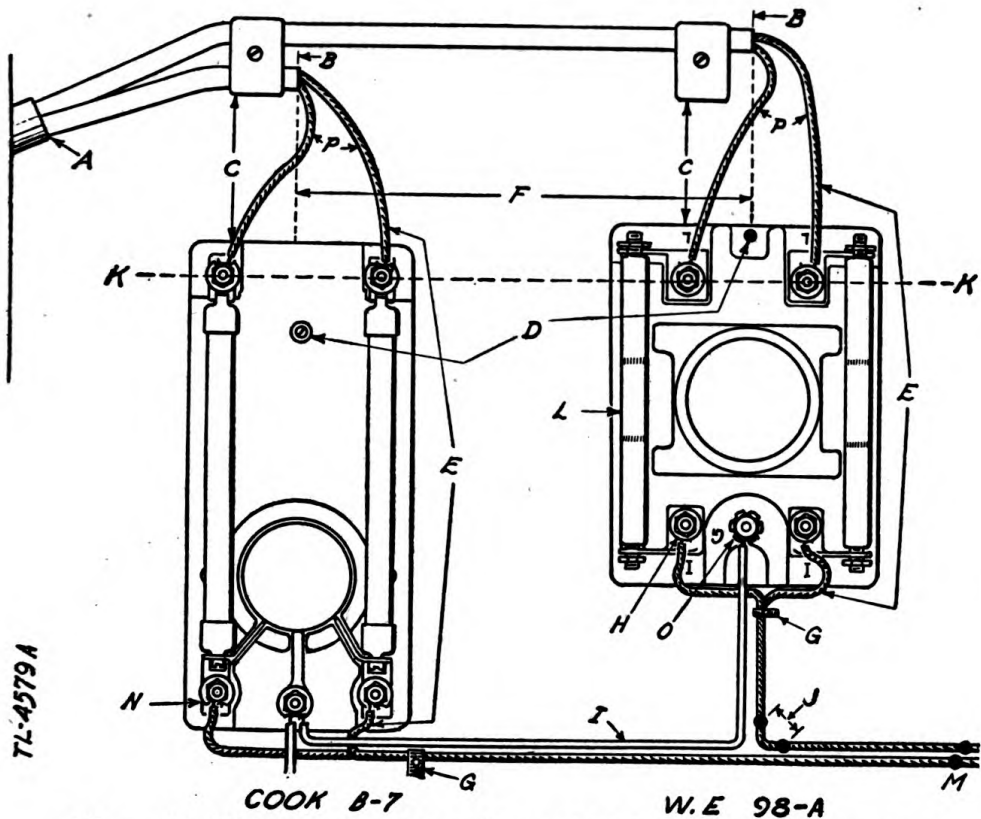
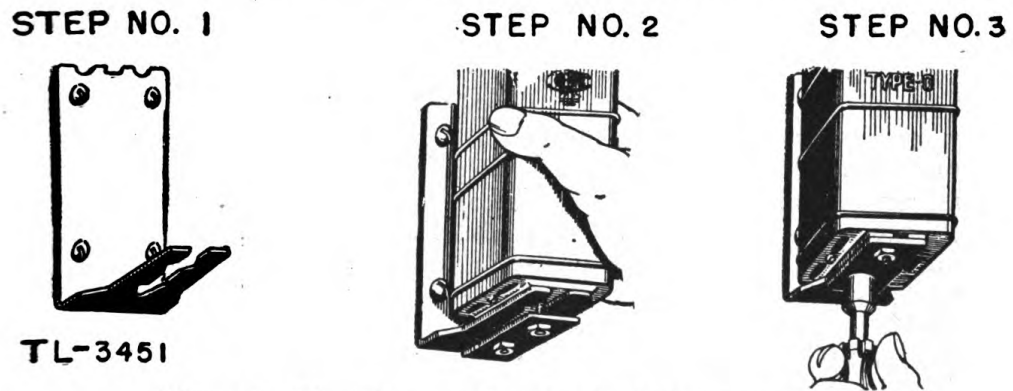
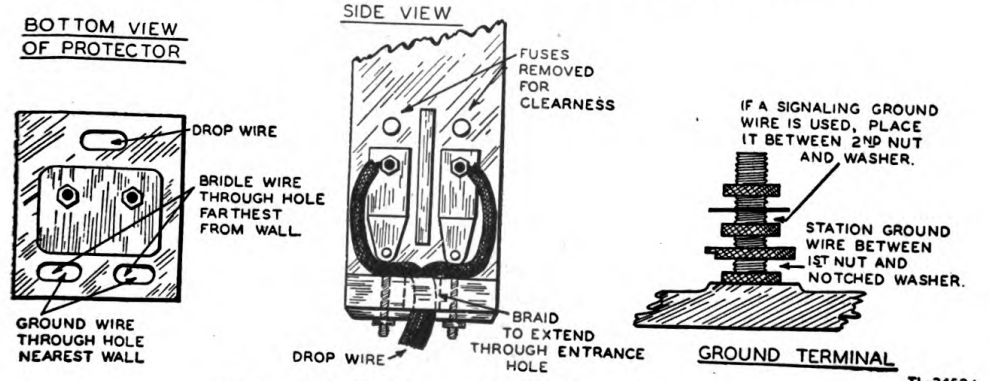

Figure 75. Wiring at Cook Type B-7 and W.E. Type 98-A protectors.
Figure 76. Mounting procedure for Cook Type 0 protector.
Figure 77. Wiring at Cook Type 0 protector,
*e. MOUNTING PROTECTORS INSIDE.* (1) Protectors may be mounted on any substantial surface. If a substantial surface is not available or if the surfaces available are rough or damp, mount protector on a suitable wood backboard.
(2) Do not mount protectors horizontally, with fuses one above the other.
(3) Protectors may be mounted on ceilings.
(4) When protectors are installed side by side, mount them so that their centers are at least 5 inches apart. (See fig. 75 (F).)
(5) On backboards or solid wood surfaces, use 1¼-inch No. 8 round head, blued, wood screws; on wood lath and plaster, use 2-inch No. 8 round head, blued wood screws. (See fig. 75 (D).)
f. WIRING PROTECTORS. (1) A porcelain tube should extend ¼ inch beyond the wall. In locations where appearance is not important, the tube need not be cut unless there is a possibility of breaking the exposed portion. (See fig. 75 (A).)
(2) The braid on wires should be allowed to extend ¼ inch beyond the "C" knob. (See fig. 75 (B).)
(3) Mount "C" knobs 1 to 4 inches from the top of the protector. The 4-inch distance is most practicable, for if the line wires are broken, the knob can be moved closer to the protector, in order to obtain slack. (See fig. 75 (C).)
(4) Terminate the line and inside tracer wires to the right-hand side of the protector. (See fig. 75 (E).)
(5) The last fastener placed on inside wires at the protector will be an inside wiring cleat. This fastener must be within 2 inches of the protector. (See fig. 75 (G).)
(6) Strip the insulation back ⅛ inch at all terminals. Wire should circle the terminal for a three-quarter turn, and should extend slightly beyond the edge of the washer. Place wire around the terminal in a clockwise direction. (See fig. 75 (H).)
(7) No fasteners are needed on a ground wire strap between protectors. (See fig. 75 (I).)
(8) In making corner turns, place inside wiring nails about 1 inch apart. (See fig. 75 (J).)
(9) When protectors are not mounted on a backboard, place line terminals in line with each other, if practicable. (See fig. 75 (K).)
(10) Slots in fuses are faced toward the protector. (See fig. 75 (L).)
(11) In multiple wire runs, stagger fasteners ¼ inch. (See fig. 75 (M).)
(12) Slotted portion of washers on the Cook Type B-7 protector are open toward the wire, permitting the wire to pass through the slot. (See fig. 75 (N).)
(13) Place ground wire behind the pronged washer on W. E. 98-A protectors. (See fig. 75 (O).)
(14) Make equal in length the line wires which go to protectors. (See fig. 75 (P).)
g. MOUNTING PROTECTORS OUTSIDE. (1) When it is not practicable or permissible to place a protector inside a building, or when maintenance conditions make an outdoor mounting advisable, the protector can be mounted outside on a proper protector mounting.
(2) Many types of protectors and mountings are available for outdoor use, the most common protector being the Cook Type 0.
(3) The Cook Type 0 protector is mounted as shown in figure 76 and is wired as shown in figure 77.